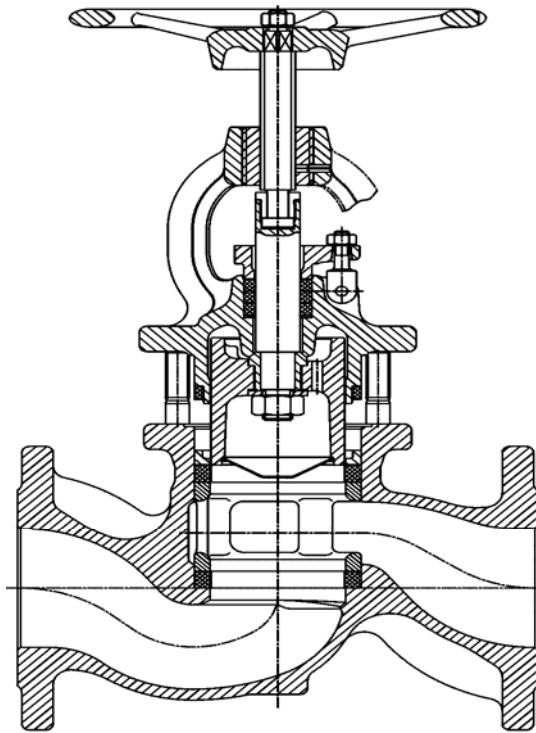
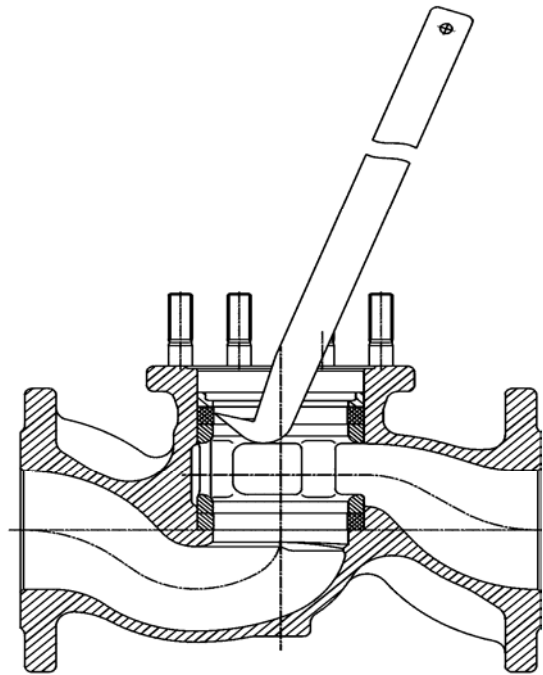

Fig. 1
Fig. 2
- *Unscrew the stud bolt (25), then unmeant Belleville washers (33)*
- *Turn the hand wheel (3) clockwise (closing direction), at the same time bonnet (2) rises out of body*
- *Turn bonnet slightly until the flange adjoin against the stud bolt faces (25) and turn hand wheel anti-clockwise (opening direction) until the piston (4) is completely free of the top valve ring (14), (see Fig. 1)*
- Remove upper block with hand wheel, piston, piston shaft (10) and spindle (9)
- Remove compression piece (18) and top valve ring using ring extractor hook, (see Fig. 2) *)